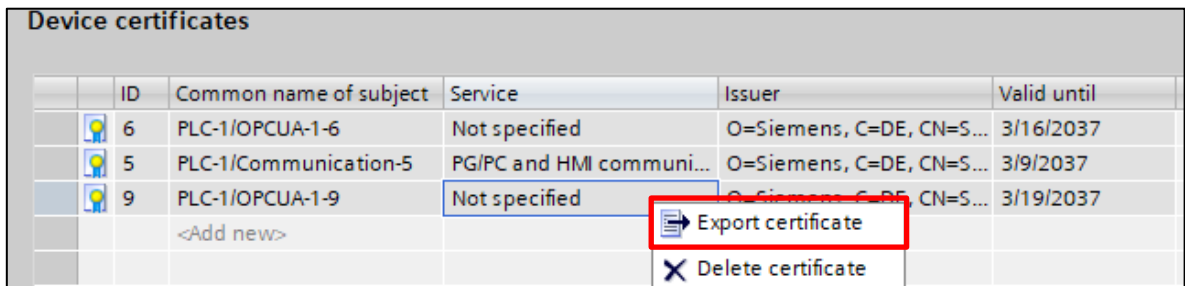

Figure 11: Export OPC UA Client certificate
9. Right-click on the created certificate and press "Export certificate" (Figure 11 red square) and save the certificate file.